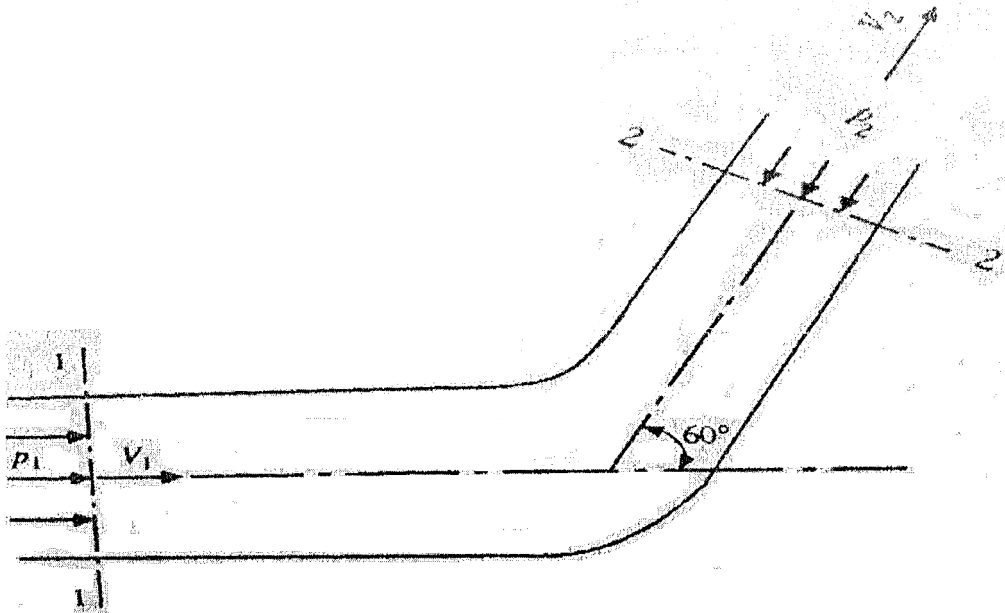

Figure 3, question 6 (b)
i) the head loss and ii) the direction of the flow. (10)
6. a) With a neat diagram explain the working principle of a venturimeter. What is co-efficient of discharge? (10)
b) In Figure 3, a reducing bend of angle 60° in a pipeline has been shown. The diameter of the bend initially i.e. at section 1-1 is 300 mm and the final diameter i.e. at section 2-2 is 150 mm respectively. The pipeline carrying water with a discharge rate, $Q = 360 \text{ litres/s}$. The pressure at the commencement of the bend i.e. at section 1-1 is $P_1 = 2.943 \text{ bar}$. The frictional loss in the pipe bend may be assumed to be as 10% of the kinetic energy at the exit of the bend i.e. at section 2-2. Determine the force exerted by the reducing bend and its direction of action. (10)